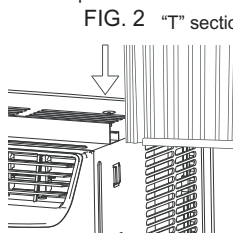

FIG. 2 "T" section
- B. Slide the free end "T" section of the panel directly into the cabinet as shown in FIG. 2. Slide the panel down. Be sure to leave enough space to slip the top and bottom of the frame into the rails on the cabinet.